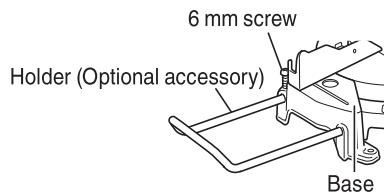

Fig. 9
- As indicated in Fig. 9, installing the holder in the holes on the side of base and fasten it with 6 mm screw.